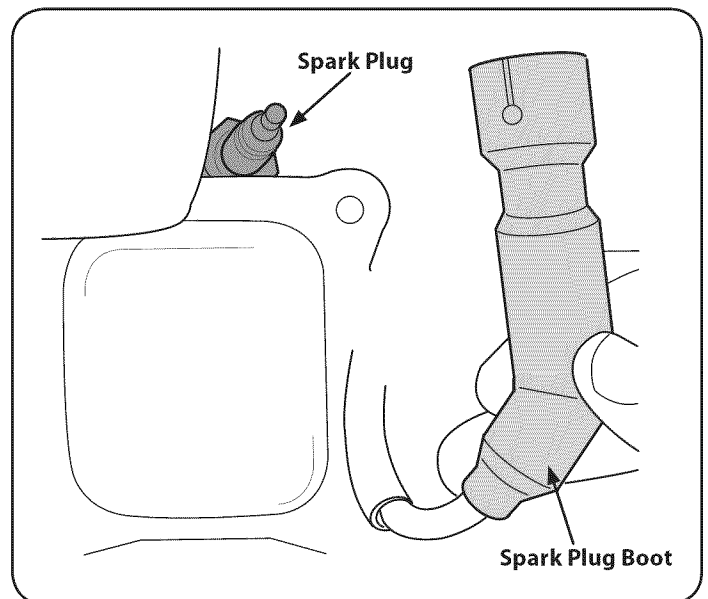

Figure 12
1. Remove the spark plug boot and use a spark plug wrench to remove the plug, Figure 12